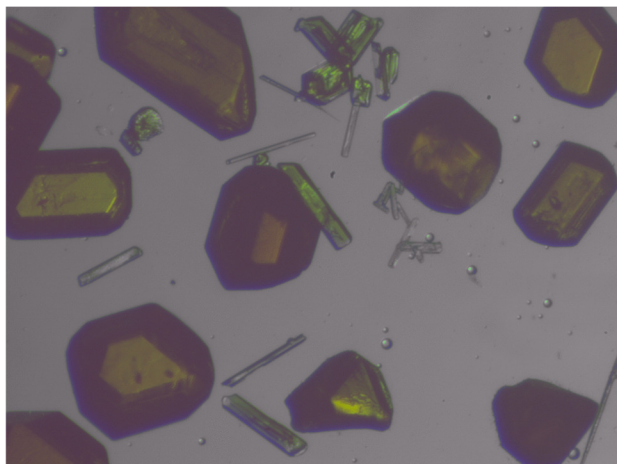

Figure 7, Crystals with well-developed faces on a microscope slide
- Measure the dimensions of the crystal: Switch on the measuring tool (double sided arrow icon on top of <Center Crystal> window, Fig. 7). Click on one side of the crystal, hold the left mouse key and drag to the other side. The length of the green line dragged is given in the bar below the video screen (“vector length”, value in μm). Write down the value and repeat for the other two directions using <Spin Phi 90>.